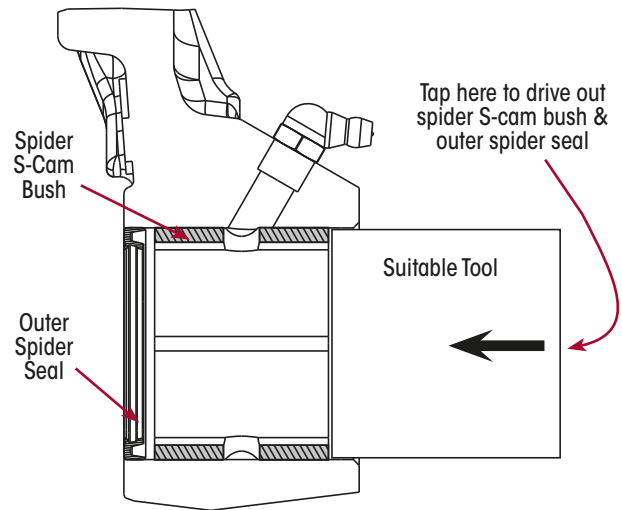

Figure 84: Spider S-Cam Bush & Seal Removal
4. Using a suitable bush tool or seal driver, tap the spider S-cam bush and outer seal out of the spider bore. Refer Figure 84.
3. Using a suitable bush tool (the same used in Figure 84), carefully tap a new spider S-cam bush into the spider.